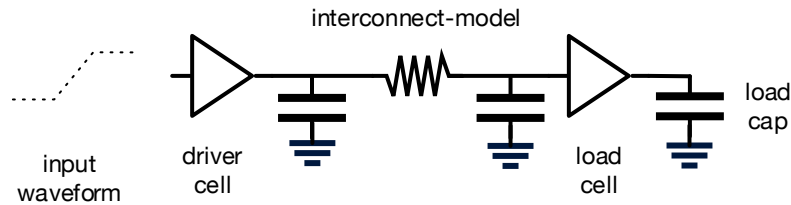

Figure 1: Test circuit for delay calculation
Contestants need to develop and implement a current source model algorithm to calculate cell delays. Algorithm will be evaluated on a series of testbench circuits consisting of a driver, an interconnect, and a load, as shown in Figure 1.
- Reading the test circuits (as shown in Figure 1)